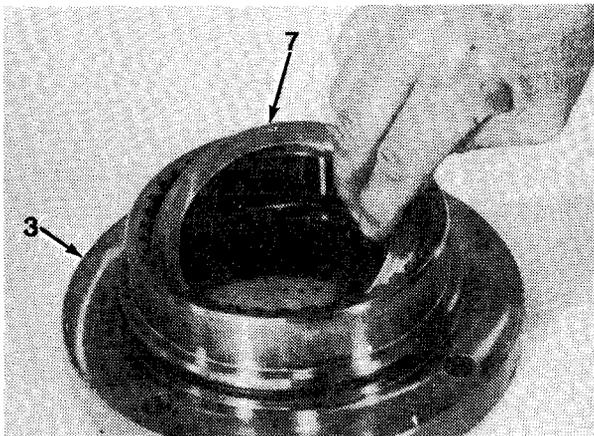

Figure 16-8
2. Install one spacer (7) in motor support (3, Figure 16-8).